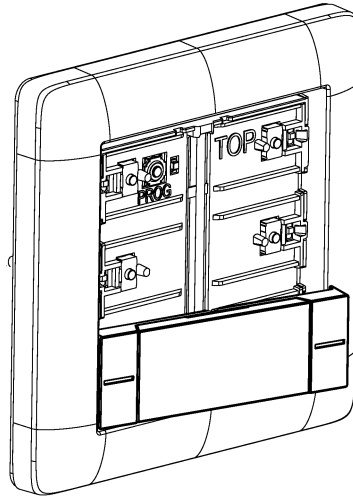

Figure 8: Slide the side of the rocker into place
- Slide the side of the rocker into place (see figure 8).